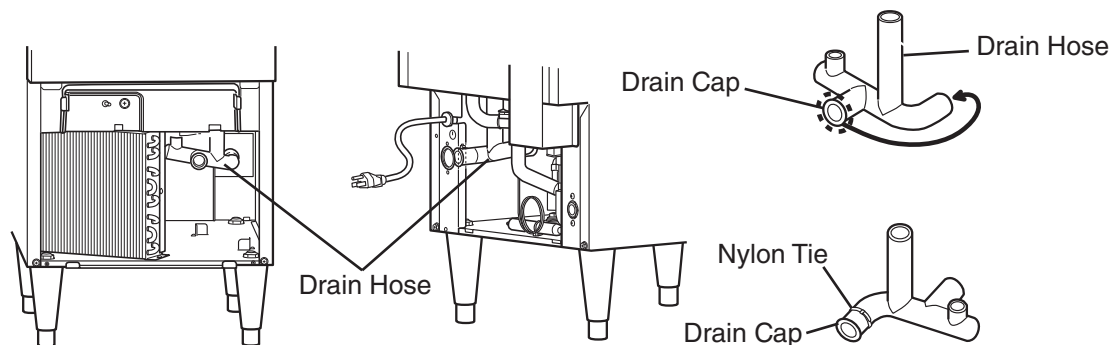

Fig. 4
- 4) Remove the drain hose drain cap from its current position and place it in the drain hose opening where the drain fitting was connected. See Fig. 4. Secure the drain cap to the drain hose with a nylon tie.